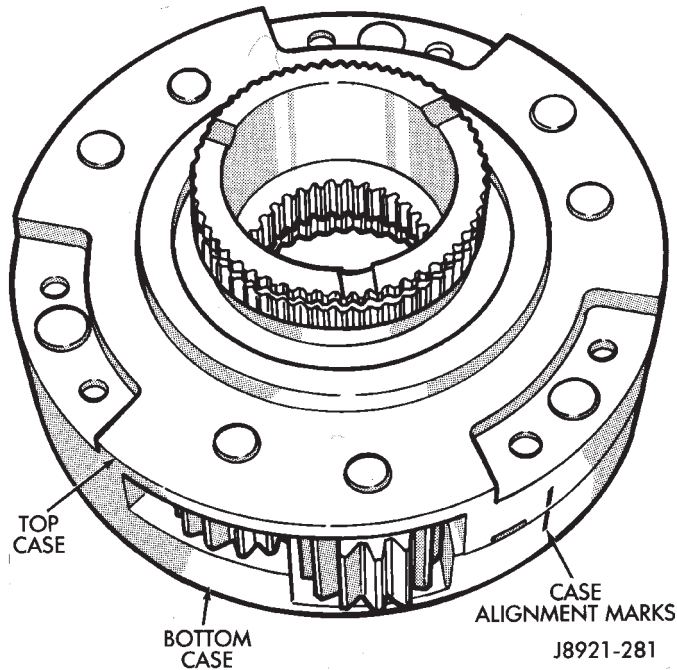

Fig. 55 Differential Case Assembly
(29) Align and position differential top case on bottom case (Fig. 55). Align using scribe marks made at disassembly.
(30) Install and tighten differential case bolts to specified torque.